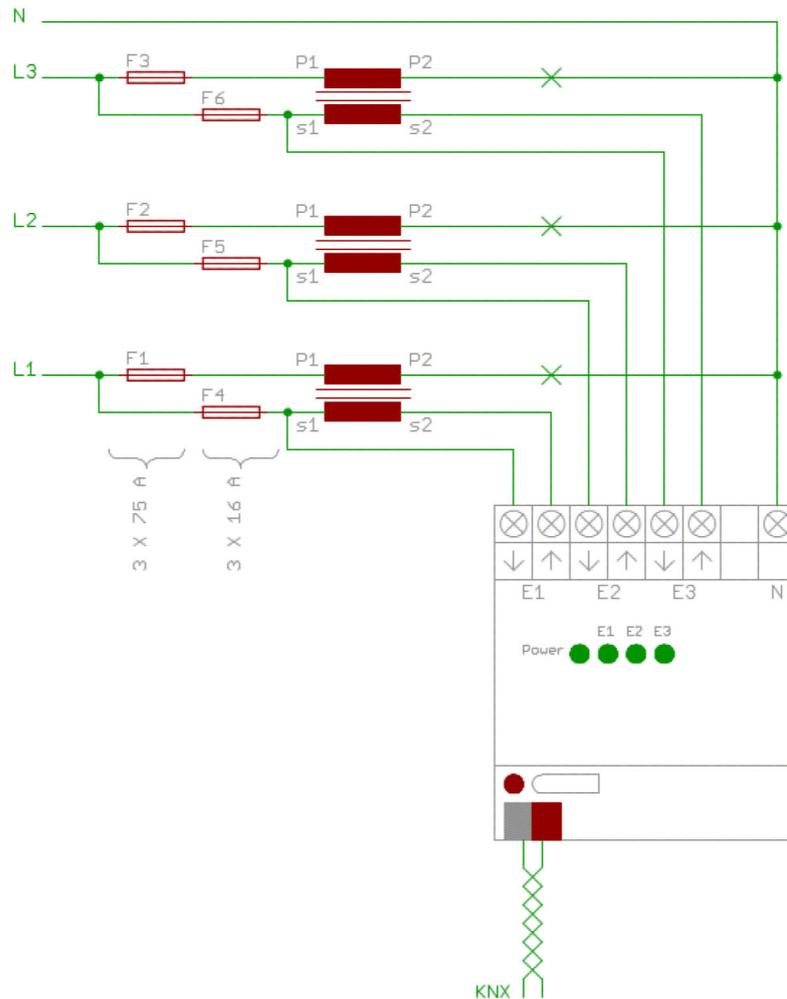

Figure 3: Connection diagram for current measurement using current transformers
- If the device is operated with external current transformers, then connect according to Fig. 3.